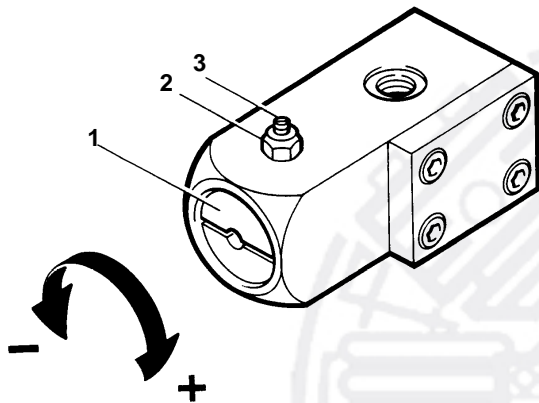

Abb. 31 Pressure maintaining valve
The pressure maintaining valve (Abb. 31) is adjusted at the factory to the required pressure and normally does not require regular maintenance or readjustment. In case of readjustment becoming necessary, loosen jam nut (2) and set screw (3). Adjust screw (1) to the required pressure using a suitable screw-driver.